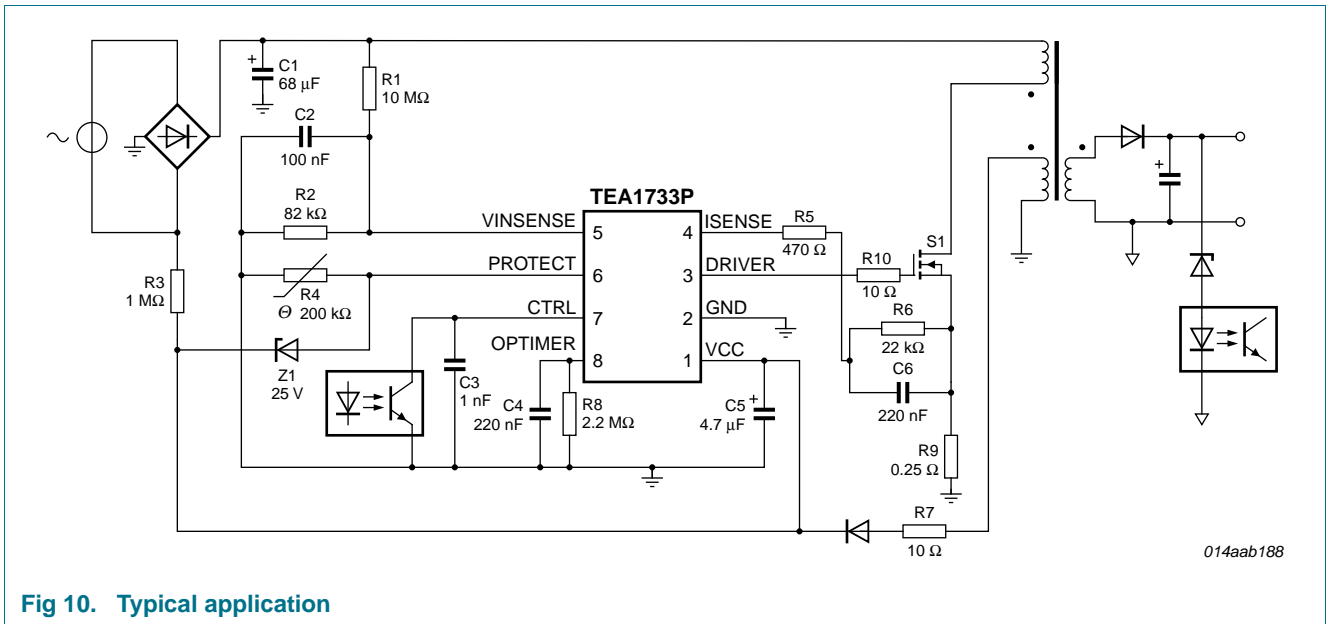

Fig 10. Typical application
A power supply with the TEA1733P is a flyback converter operating in Continuous conduction mode (See Figure 10).
In the example shown in Figure 10, the PROTECT pin is used for OVP and OTP. The OVP level is set by diode Z1 to  $V_{CC} = 25.8\text{ V}$ . The OTP level is set by Negative Temperature Coefficient (NTC) resistor R4. The VINSENSE pin is used for mains voltage detection and resistors R1 and R2 set the start voltage to about 80 V (AC). The overpower protection time is defined by capacitor C4 is set at 60 ms.